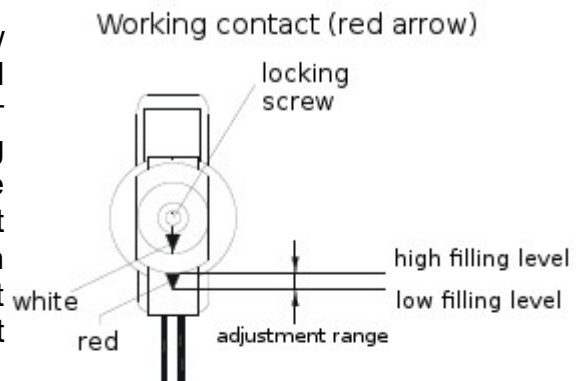
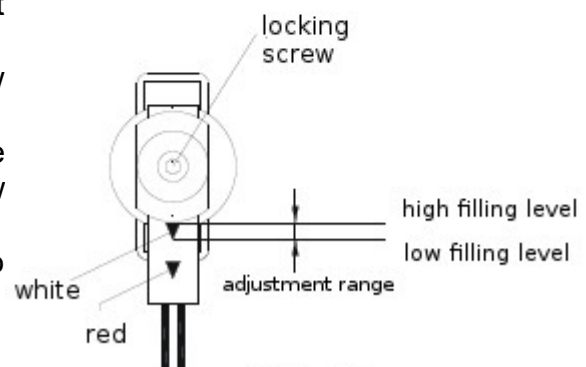

Fig. 15
Fig. 16
- Then loosen the locking screw (hexagon socket SW 2.5 for brass and stainless steel version or cross slot for plastic version) and move the switching unit so far that the red arrow at the input of the guide of the switching unit is visible at the desired normally open contact (Fig. 15) or the white arrow at the input of the normally closed contact (Fig. 16).